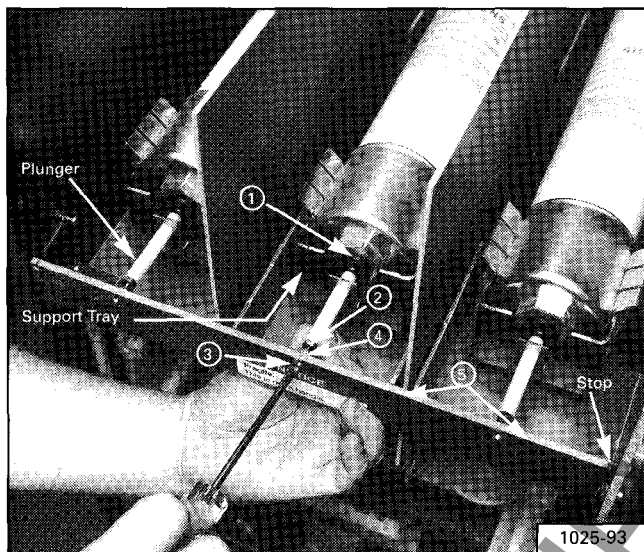

Figure 8. Adjustment of the Plunger
1. All fuses must be installed in clips with load side of fuse resting on support tray as shown in **Figure 8**. Plunger end of fuse must be facing forward, away from disconnect fingers on contactor.
2. With the trip bar in its normal spring return (deactivated position), the trip bar should rest against the stop screw on the right hand contactor side plate as shown in **Figure 8**. The trip bar must be held in this position while performing adjustments 3 and 4.
3. Adjust each of the three plunger assemblies shown in **Figure 8** to obtain a $\frac{1}{16}$ " (1.6mm) gap between the plunger (1) and the end of the corresponding fuse as follows: Insert a $\frac{1}{16}$ " (1.6mm) shim between the end of the fuse and the plunger (1). Loosen locknut (2) and turn adjusting screw (3) until there is no gap between stop nut (4) and trip bar (5). Retighten lock nut (2).